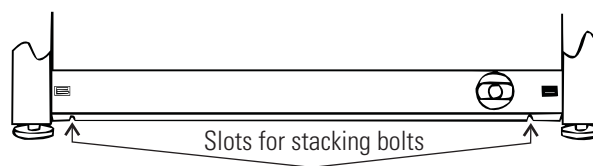

Figure 1-5. Stacking Bolt Slots
- Note the two slots in the base of the incubator which accommodate the stacking bolts. Refer to Figure 1-5.